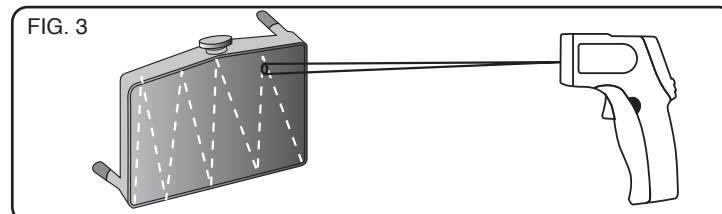

FIG. 3
9.4 LOCATING A HOT SPOT - FIG. 3